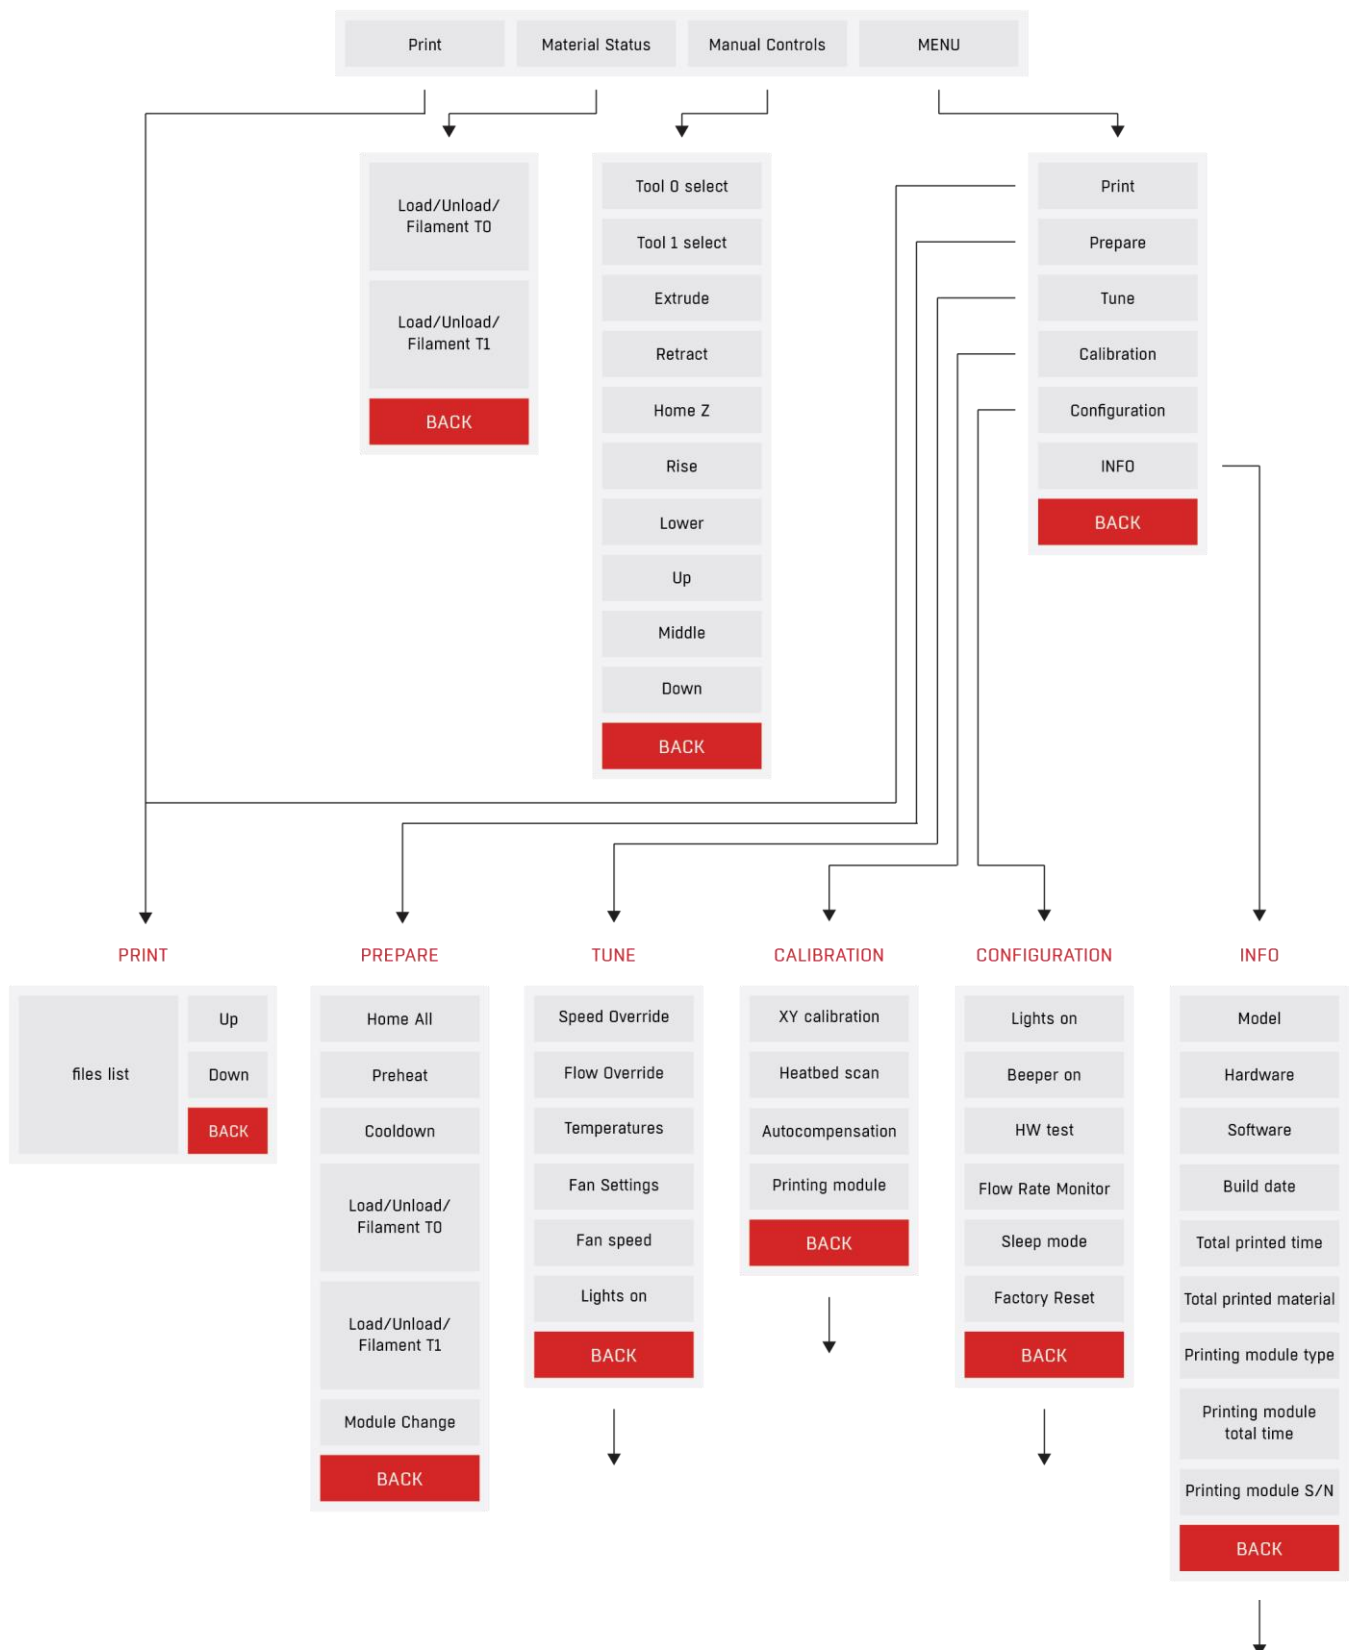

Fig. 50 Main menu structure in idle mode
- main menu in idle mode (MAIN) – fig. 50,